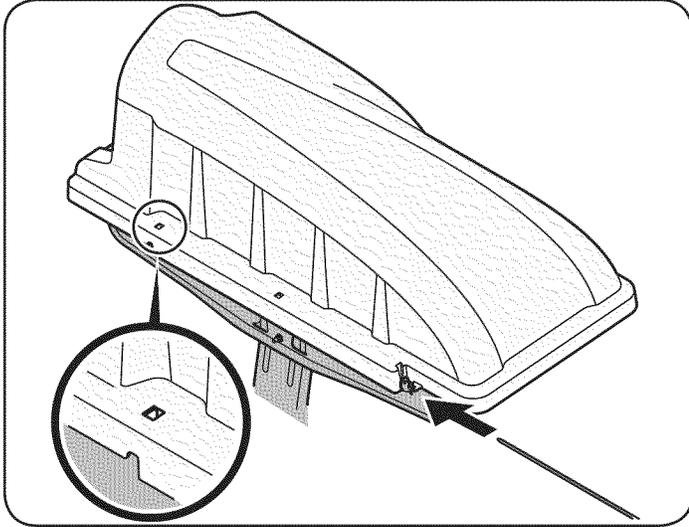
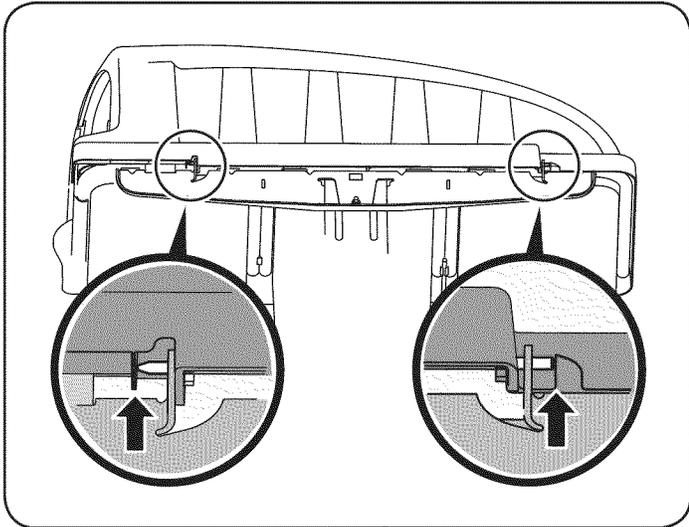

Figure 11
Figure 12
- Slide the hinge pin into the hole located on the mounting tab, as in Figure 11. Use the cut-out window (See inset in Figure 11) to line up the hinge pin on the other side and push pin all the way in until it reaches the end-stop. At this point the pin clips into place and is secured by a tab in the bagger cover. See Figure 12.